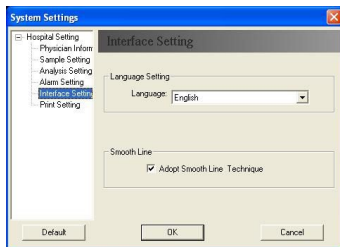

Fig.6-26
- ◆ **"Interface Setting"** includes language setting and smooth line setting.(Fig.6-26):